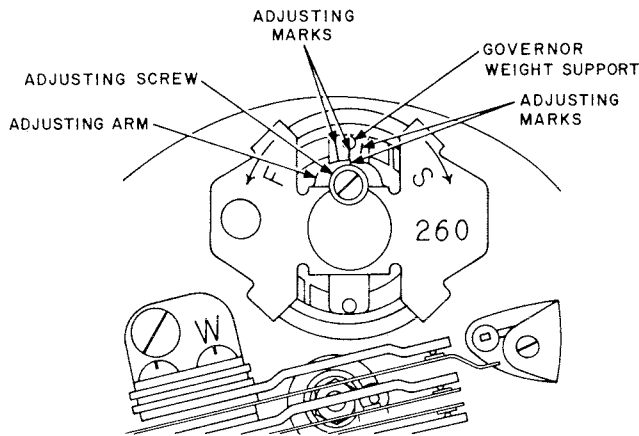

Fig. 12—Dial Governor With 260 Tool in Place
- (1) Place 260 tool on dial governor (Fig. 12) to hold the movable parts.
- (2) Loosen governor adjusting screw enough to permit movement of the adjusting arm.
- (3) Move adjusting arm toward F (to increase speed) or toward S (to reduce speed), gauging the amount of movement by the adjusting marks (Fig. 12).
- (4) Tighten adjusting screw and remove tool.
- (5) With receiver on-hook, dial 0 and visually determine if desired change in speed has been realized. If Central Office is equipped with automatic dial test equipment, see 3.13.
- (6) Replace dial if speed cannot be adjusted to meet requirements.